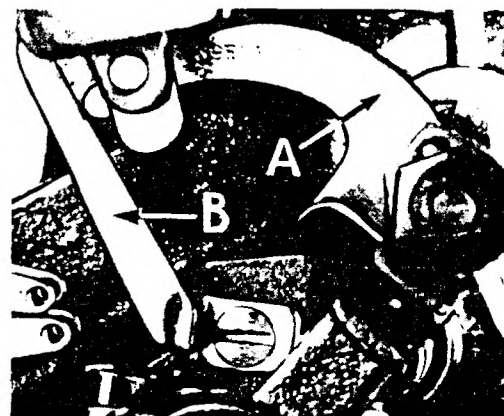

Fig. 4
If needle thread cam pull-off (A, Fig. 4) overlaps looper thread pull-off (B), separate by moving looper thread pull-off back. When re-tightening looper pull-off screw, be sure to take up end play in needle driving arm.